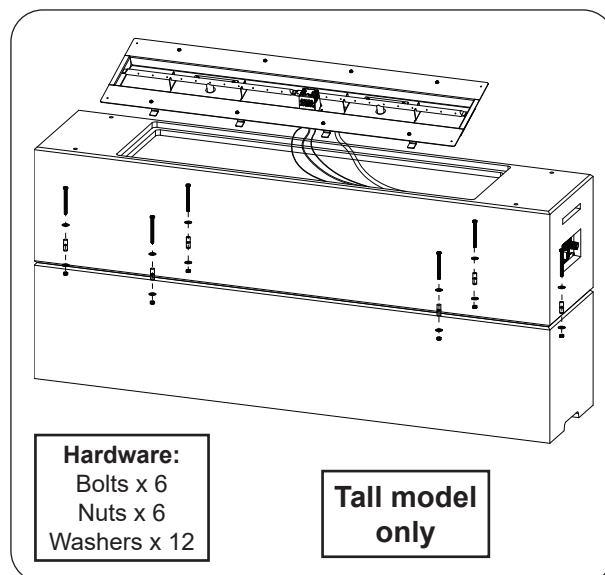

Fig. 27-1 Assemble unit (if applicable)
1. Insert the hardware kits in the position shown in Fig. 27-1. Hand tighten, then use two  $\frac{1}{2}$ " open end wrenches (or equivalent) to fasten.